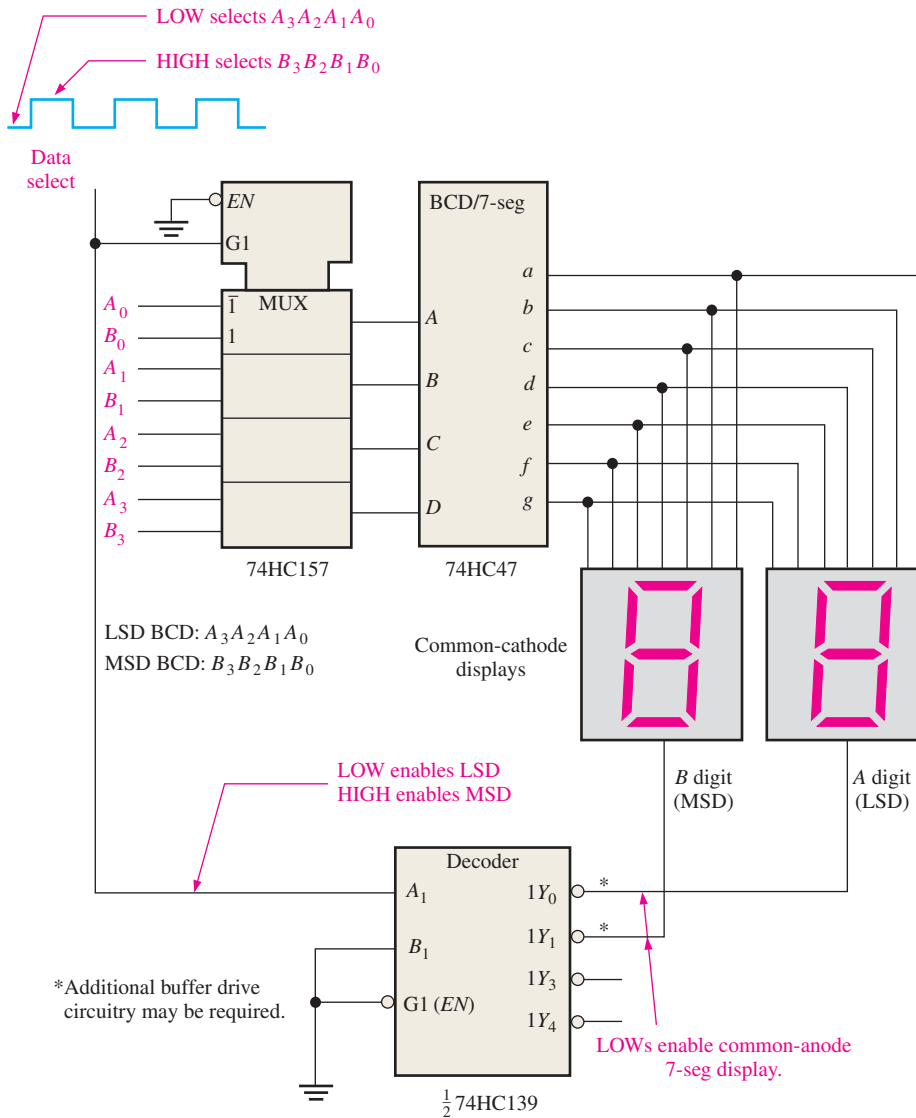

FIGURE 6-49 Simplified 7-segment display multiplexing logic.
Figure 6-49 shows a simplified method of multiplexing BCD numbers to a 7-segment display. In this example, 2-digit numbers are displayed on the 7-segment readout by the use of a single BCD-to-7-segment decoder. This basic method of display multiplexing can be extended to displays with any number of digits. The 74HC157 is a quad 2-input multiplexer.
4. Briefly describe the purpose of each of the following devices in Figure 6-49: